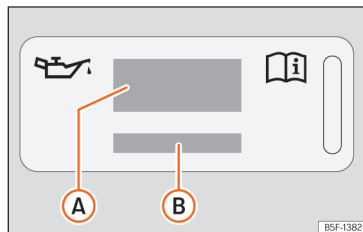
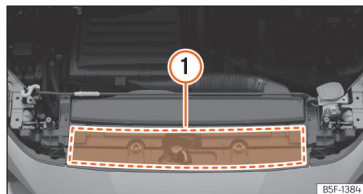

Fig. 174 In the engine compartment: engine oil label
Fig. 175 In the engine compartment: area where the engine oil label is located
Key to the >>> **Fig. 174:**
If the engine oil has to be topped up, use one of the oils shown on the label >>> **Fig. 174**. The label with the prescribed standard is located at the front of the engine compartment >>> **Fig. 175 (1)**. If you use the recommended engine oil, you can top up the oil as often as necessary.
- If the label showing the engine oil specifications is missing >>> Fig. 174, please contact a specialist workshop.